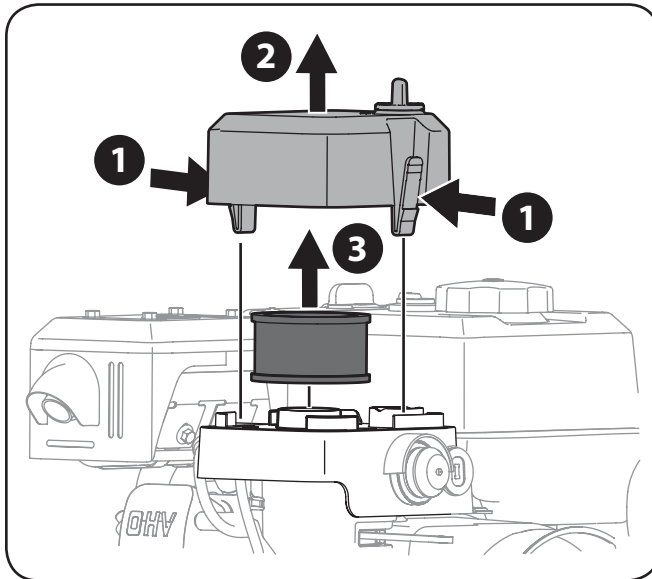

Figure 6-7
3. Press the tabs on the air filter cover (1) and lift the cover (2) up and off of the engine. See Figure 6-7.
4. Lift the air filter element up and off of the engine (3) as shown in Figure 6-7.